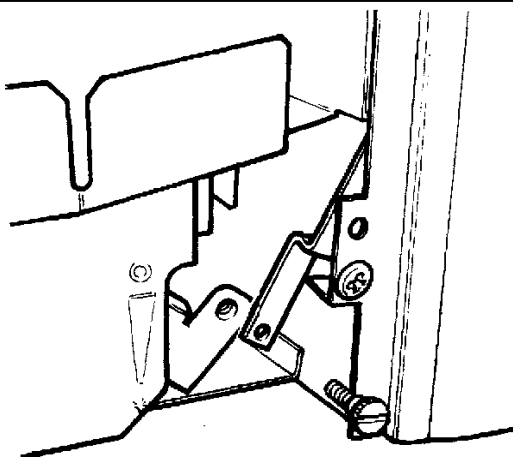

Figure 30. Control Bar & Pivot Bracket
11.3 Align the hole near the bottom of the control linking bar with that in the control pivot bracket. Join them with the knurled shouldered screw (See figure 30). Make sure that the isolating valve is closed. Slide the control button fully from top to bottom and back to make sure that the slide and pivot mechanisms move smoothly. Note that some resistance should be felt when the slide button reaches the "burner fully on" position.